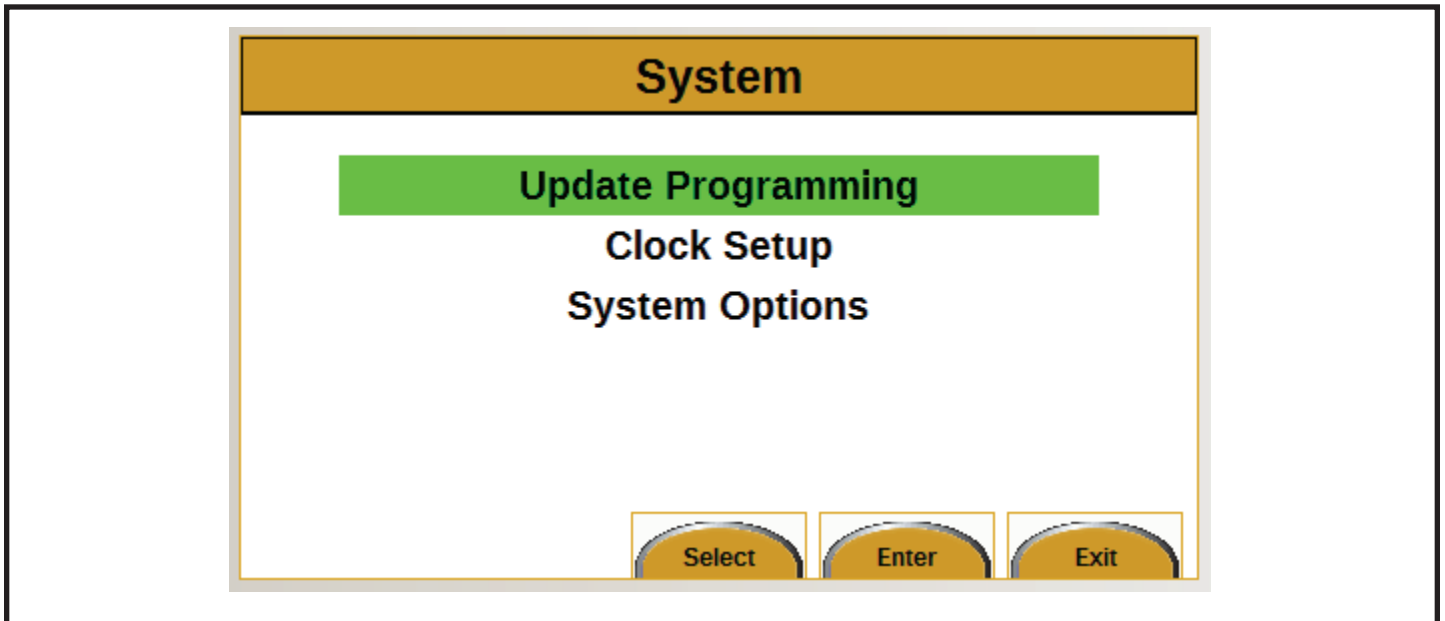

Figure 12
3. Press the Enter button. The System screen will appear (see Figure 12).